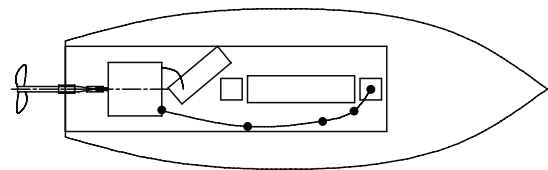

FIG. 18
Step 8. Repeat above spline procedure and draw the other wire. That is, draw a spline from the motor to the battery terminal, **Fig. 18**.